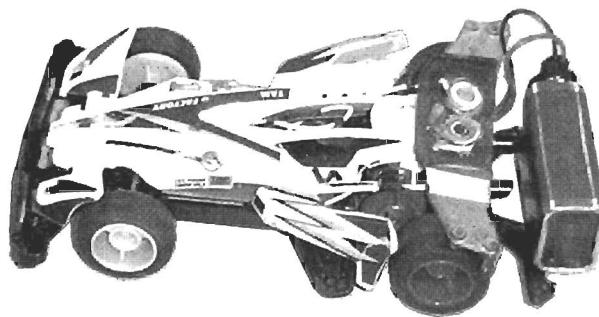
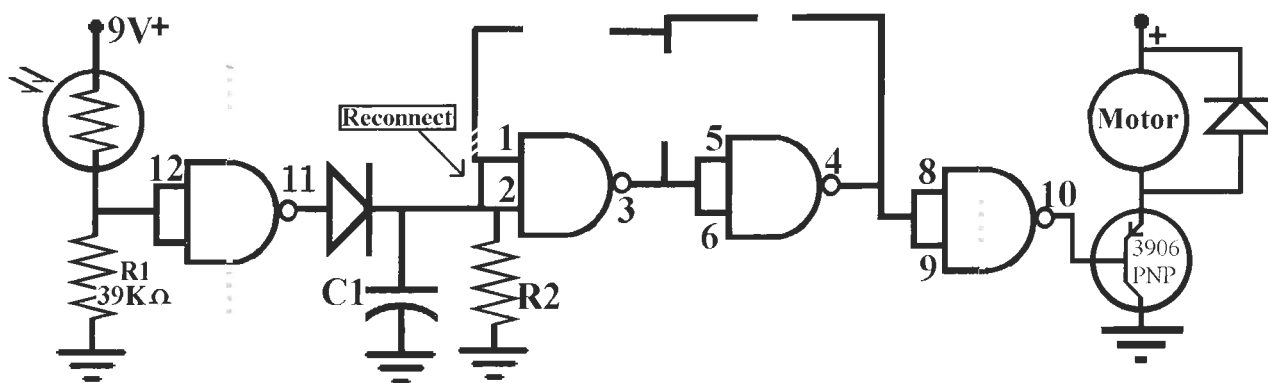

Figure L30-32
Figure L30-33
An MPG file on the Web site [www.books.mcgraw-hill.com/authors/cutcher](http://www.books.mcgraw-hill.com/authors/cutcher) shows the action of this race car. Wave your hand over the top and away it goes. It has an on/off switch; otherwise, it would be wanting to go all night. A picture is shown in Figure L30-32. The related schematic is displayed in Figure L30-33 (Table L30-7).
**Table L30-7** Related to schematic displayed in Figure L30-33